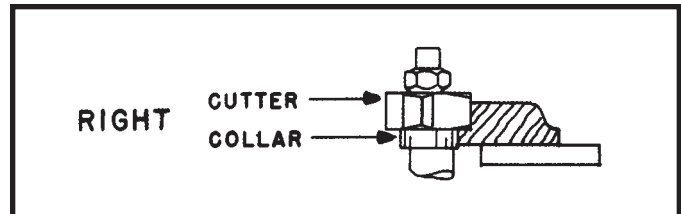
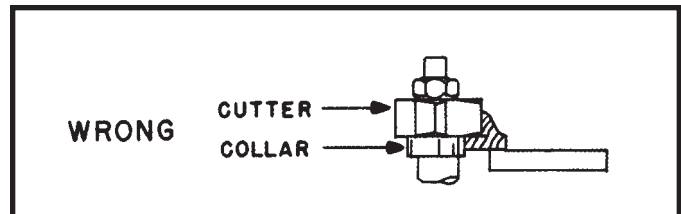

Fig. 62
Fig. 63
4. The work **MUST** be fairly heavy in proportion to the cut being made as shown in Fig. 62. Under **NO** circumstances should short work of light body be shaped against the collars as shown in Fig. 63.